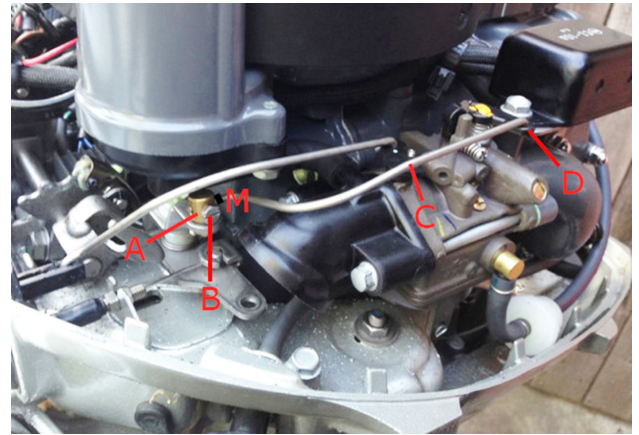

Fig 1
Step 2: See Fig. 1
- Use Ink Marker to mark Honda throttle rod (C) position at brass carb fitting (A). This mark (M) allows you to return motor to stock.
- Remove screw (B) that fixes Honda throttle rod to brass carb fitting.